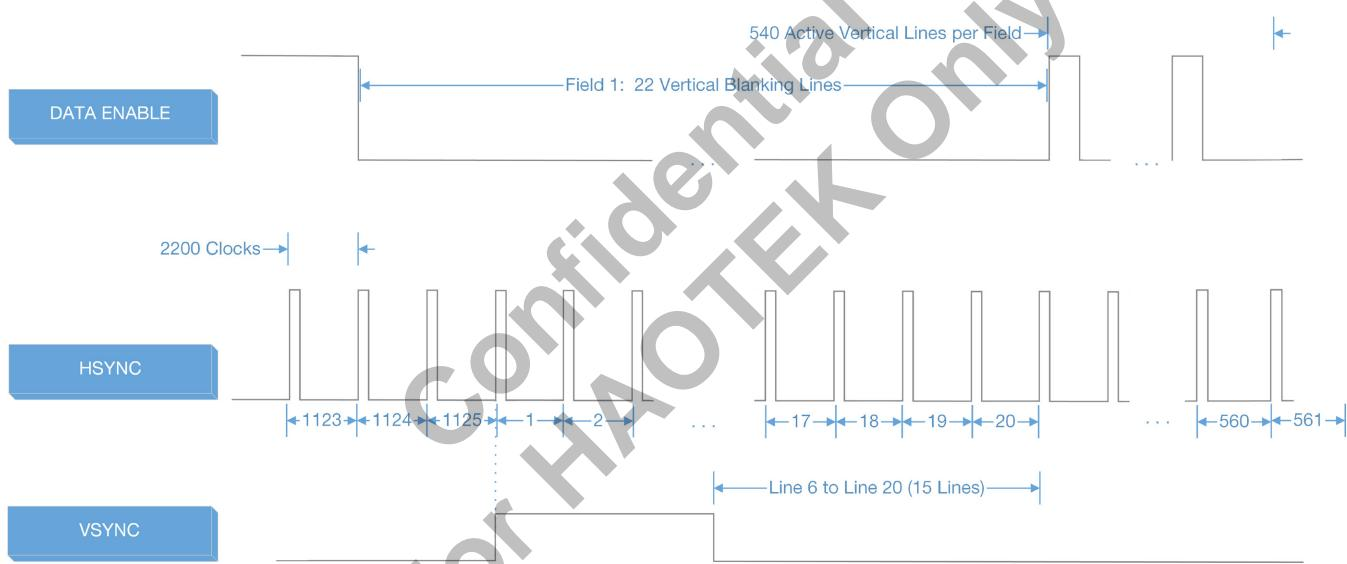
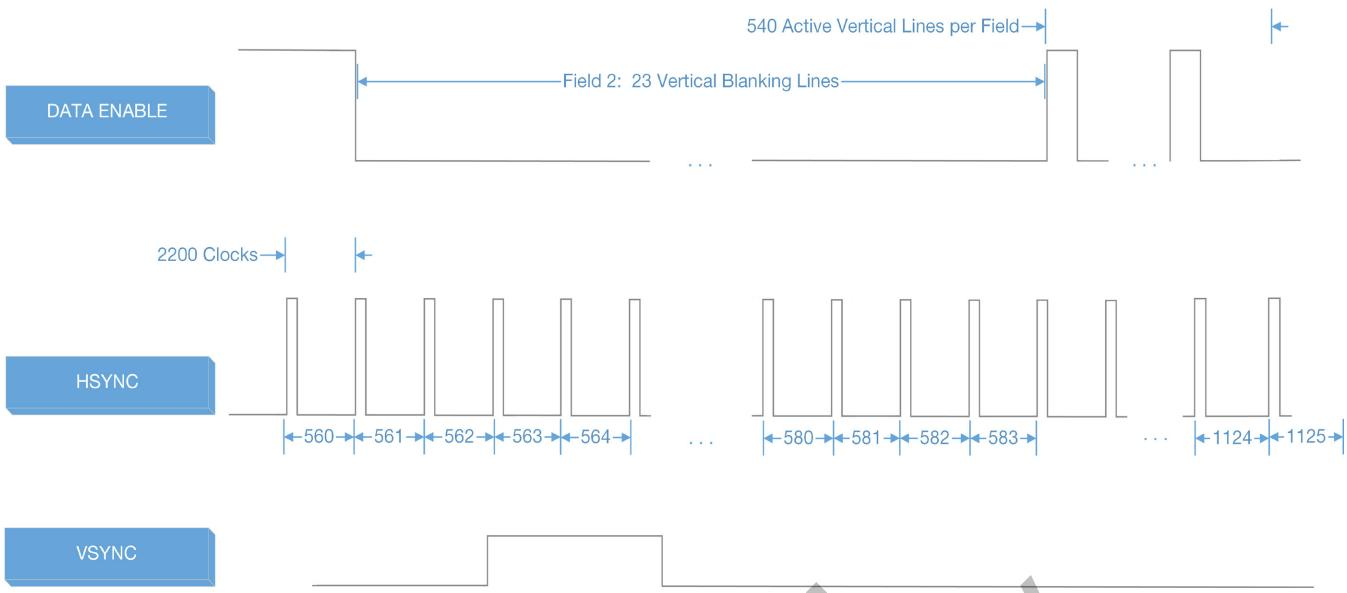

Figure 8-4. Example of HDMI Register Programming: Setting the Input Video Format (1920x1080i) (1 of 3).
Figure 8-5. Example of HDMI Register Programming: Setting the Input Video Format (1920x1080i) (2 of 3).
- VUNIT_vblank_right** determines how many lines from the VSYNC pulse will end before the Data Enable goes high. In 1920x1080i format, **VUNIT_vblank_right** proceeds from line 6 to line 20 or 15 lines. Use field 0 parameters if the video format is interlaced. Refer to Figure 8-4 and Figure 8-5.